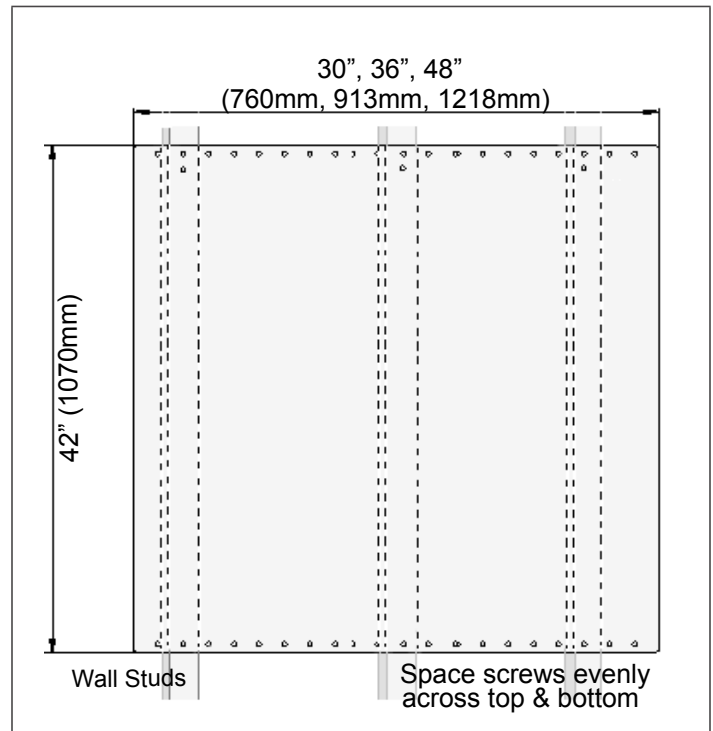

Figure 16: Backsplash Installation
(1) Installation Guide	Pencil
- Per each wall stud, use (2) of the provided screws to secure both the top and bottom of the backsplash (see Figure 16).